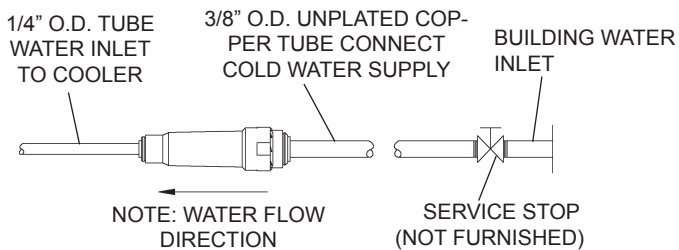

Figure 11 - Water Supply Connections
1. **Make water supply connections** (Fig. 11). Install a shut-off valve and union connection to building water supply (valve and union not provided). Turn on water supply and flush the line thoroughly.